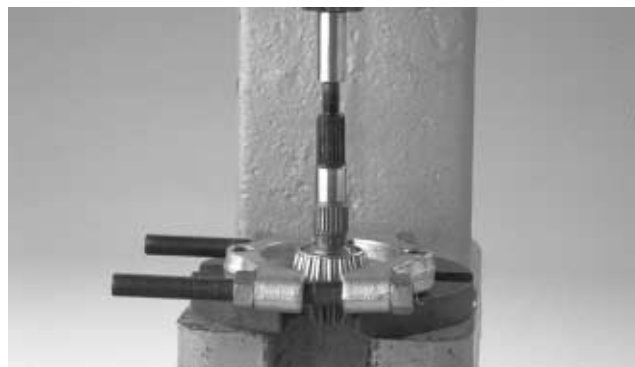

Figure 32
**Note:** Remove bearing cone (9) from the pinion gear shaft (8) **only** if it needs replacing (see Inspection).
12. Press pinion gear shaft (8) out of the bearing cone (9) using bearing press. **Make sure shaft does not drop to the floor (Fig. 32).**